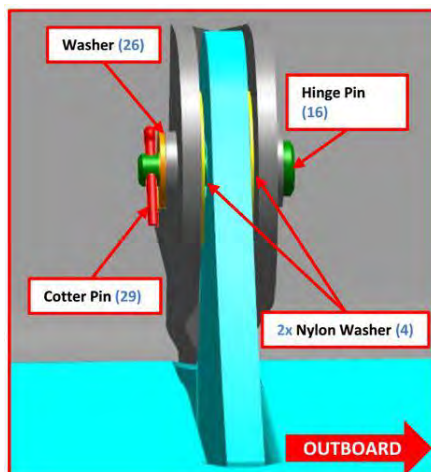

FIGURE 17-4
3. Align the hinges flap to wing and install the washers and pins at each of the three hinge locations per flap as shown in Figure 17-4. To minimize the gap between hinge elements, use 95630A460PTFE washers as needed but with a minimum of one on each side of the flap hinge
tang. Typically, there will be two PTFE washers used in each gap at the center hinge (center hinge is shown in Figure 17-4). An NAS1149C0332R washer should be used under each cotter pin.